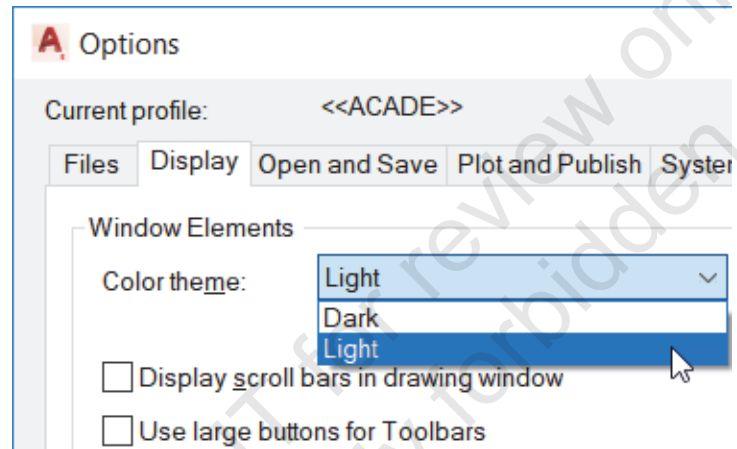

Figure 1–2
The AutoCAD Electrical interface shown in Figure 1–1, contains three main areas in which to access the AutoCAD Electrical specific commands. The color theme for the interface components has been changed to **Light** and the Drawing Window background color has been changed to white for printing clarity.
You can set the color theme for your interface components to be **Light** or **Dark** (default) in the Options dialog box, as shown in Figure 1–2.
When you launch the software or if you click in the *Start* tab while working in an active drawing, the initial Start window displays, as shown in Figure 1–3.
- The Start window contains the following options, as shown in Figure 1–3: